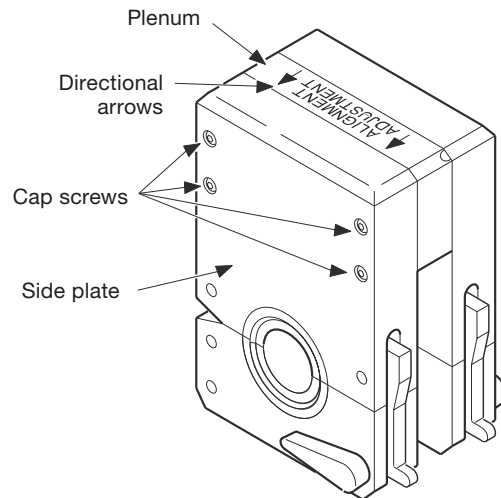

Figure 17 *Loosening the Side Plate*
1. Turn the fixture block over and locate the directional arrows on the plenum. The arrows point to the appropriate side plate. See Figure 17.
2. Using the provided 3/32 in. hex wrench, unscrew the four cap screws in the appropriate side plate just enough to loosen it from the plenum. See Figure 17 to locate the appropriate side plate.